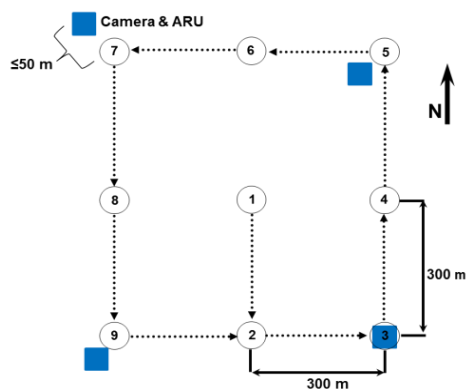

Figure 1. Placement of camera traps and ARUs relative to ABMI bird point count stations.
- At baseline survey sites, four remote cameras and four automated recording units (ARUs) are placed in a square, approximately 600m apart, centered on an ABMI site (i.e., near the corners of the original bird point count stations; Figure 1). These units are used to record mid- and large-sized mammals (cameras), and bird and amphibian vocalizations (ARUs).
- In the green zone, cameras and ARUs are placed within 50m of each station in a habitat similar to that of the grid corner (Figure 1).